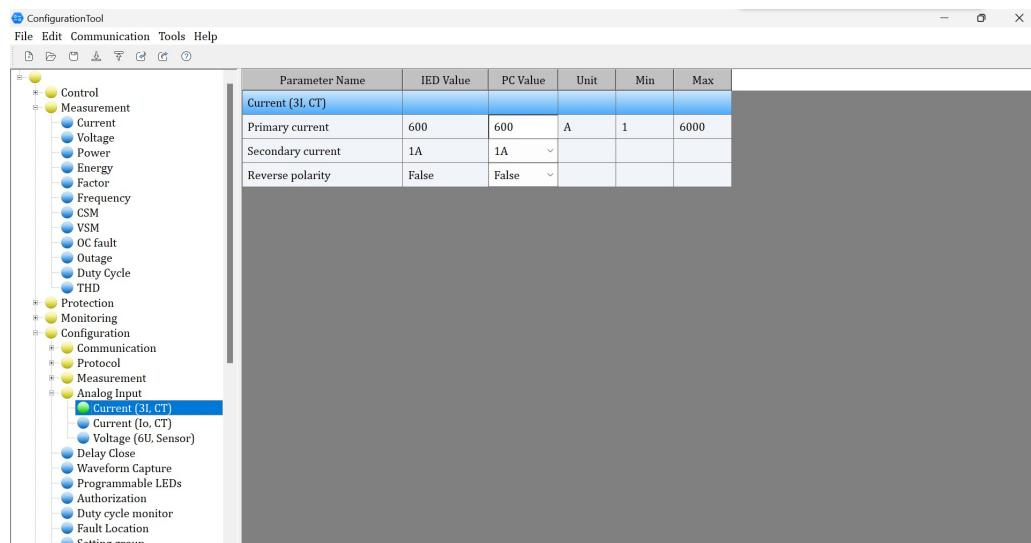

Figure 29 Analog input on configuration tool
Figure 29 shows the recommended grounding diagram for the FXD Control installed with relevant voltage transformer.
4. Click the "Analog input" and parameter settings window will popup where it is possible to edit. (Figure 29)